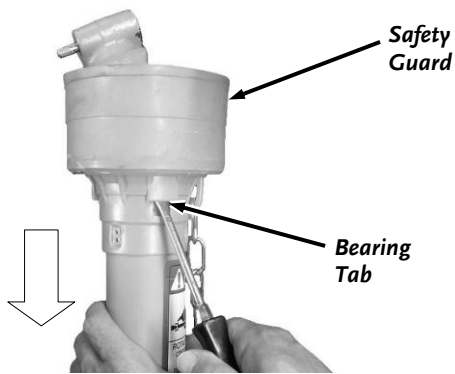

Figure 14
2. Separate the Guards from the PTO Shaft Halves by inserting a flat tip screwdriver into the Bearing Tab Slots as you pull down on the Safety Guard to release the Safety Guard from the Shaft (**Figure 14**).